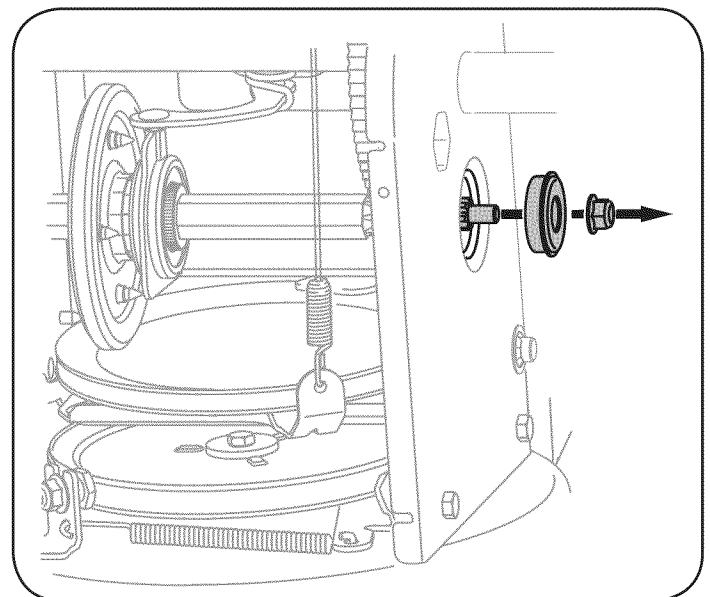

Figure 30
- Carefully remove the hex nut and washer which secures the hex shaft to the snow thrower frame and lightly tap the shaft's end to dislodge the ball bearing from the right side of the frame. See Figure 30.